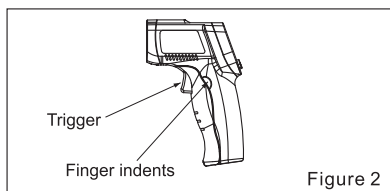

Figure 2
1. Rapid Measurement: (as shown in Fig. 2)